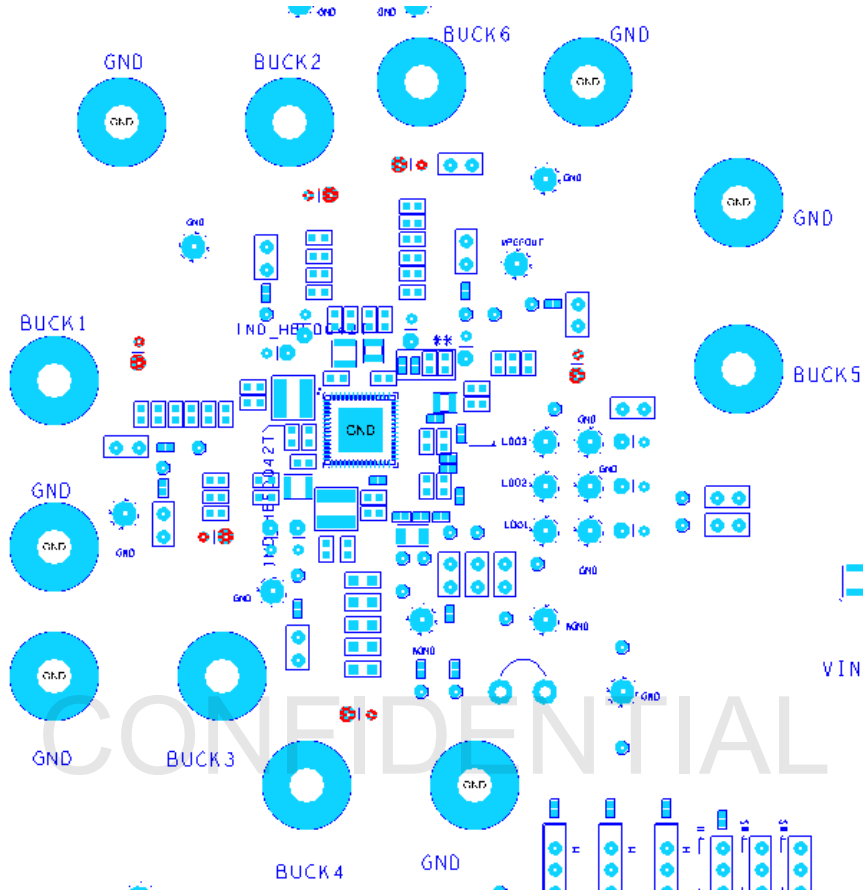

Figure 9. Locations for Measurement of Buck Regulator Output Voltages
- Figure 9 shows locations on the PCB where the buck regulator output voltages can be measured accurately. For each buck regulator, there is a pair of pads with holes to which wires, pins, or connectors can be soldered, or an oscilloscope probe can be connected. The larger of each pair of pads is the positive; the smaller pad is ground.